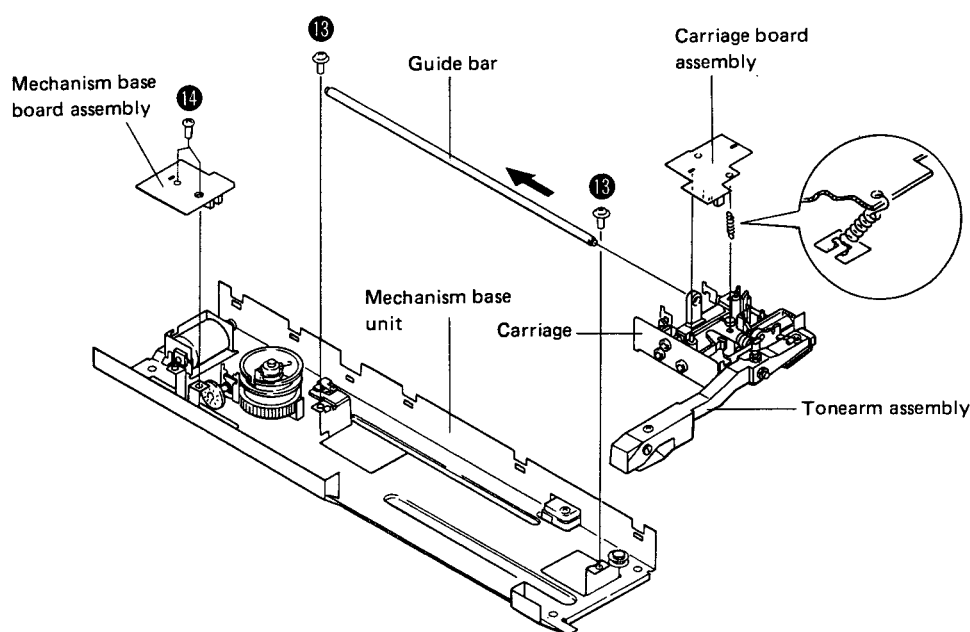

Fig. 5-2 Carriage Removal
1. Remove the fixer from the carriage and the wire from the pulley. (See Figure 5-2)